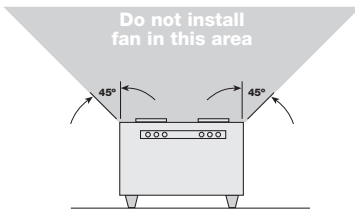

Figure 4
5. These fans are not recommended for cooking exhaust applications. They are designed primarily for low temperature, clean air applications only. Figure 4, page 6 shows the minimum distance these fans should be placed in relation to cooking equipment.
- For best performance, choose a location with the shortest possible duct run and minimum number of elbows. Do not mount near cooking equipment, shown in Figure 4.